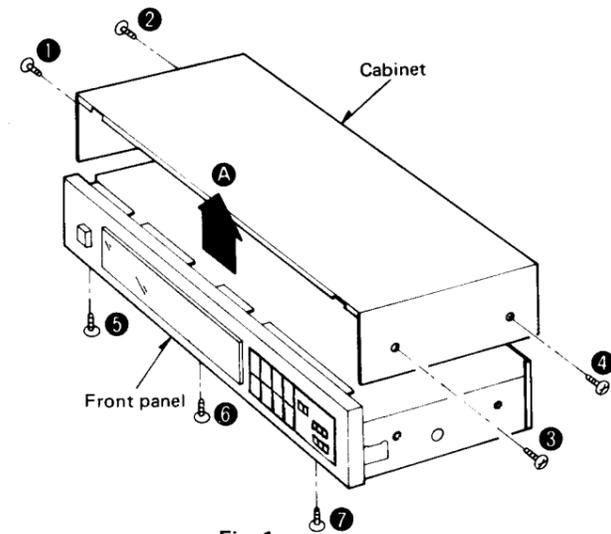
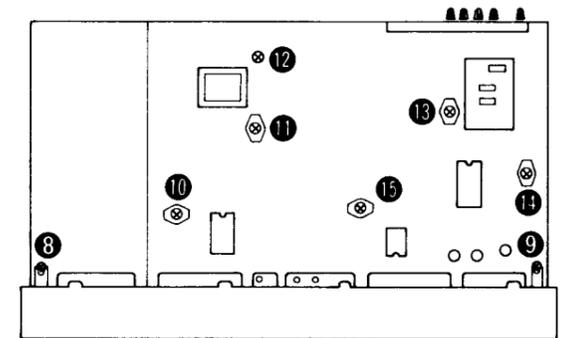
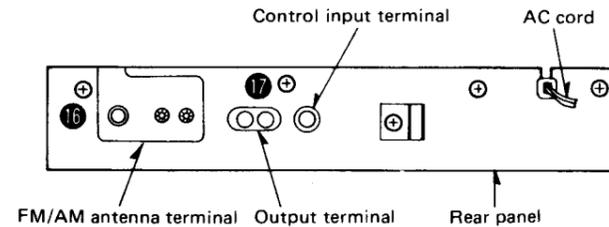

Fig. 1
Fig. 2
Fig. 3
1. Remove the 4 setscrews (1 ~ 4 in Fig. 1) of the cabinet.
2. Move the cabinet in the direction of the arrow A in Fig. 1.
3. Remove the 5 setscrews (5 ~ 7 in Fig. 1 and 8, 9 in Fig. 2) of the front panel and the 8 setscrews (10 ~ 15) in Fig. 2 and 16, 17 in Fig. 3) of the bottom board or rear panel.